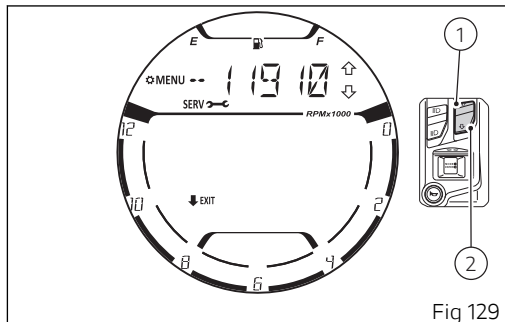
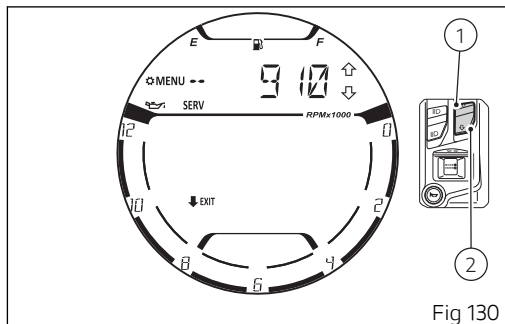
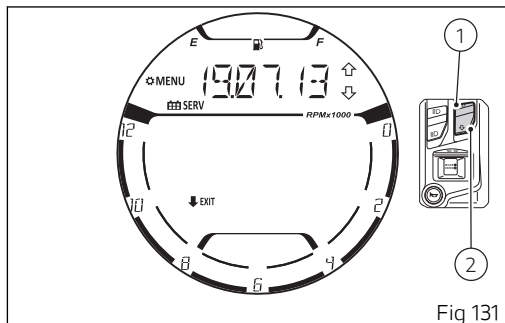

Fig 129
Fig 130
Fig 131
Upon entering the function, the display shows as first information the "Desmo service" indication (Fig 129).
Upon pressing button (1) or button (2) the instrument panel displays in sequence "Oil Service" (Fig 130), "Annual Service" (Fig 131) and then "Desmo Service" again (Fig 129).